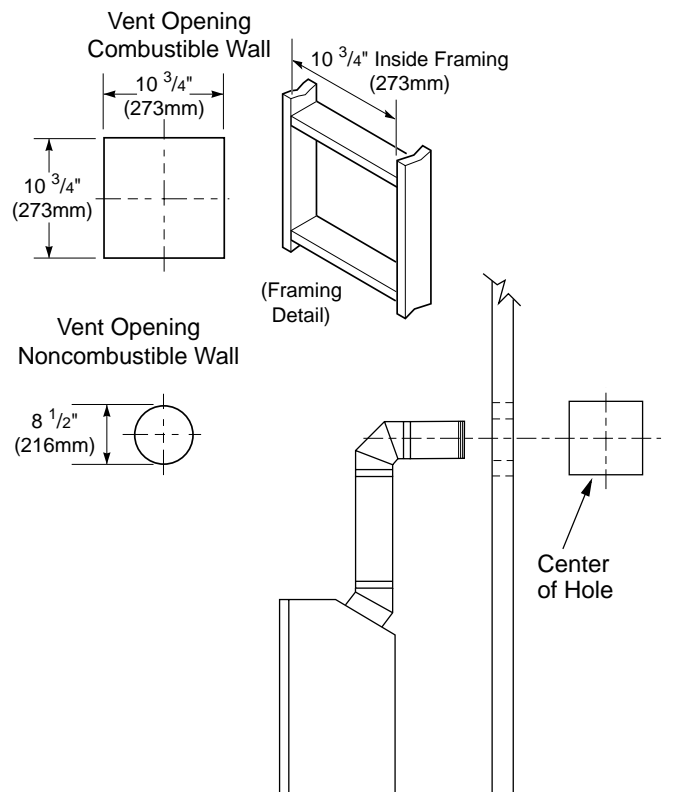
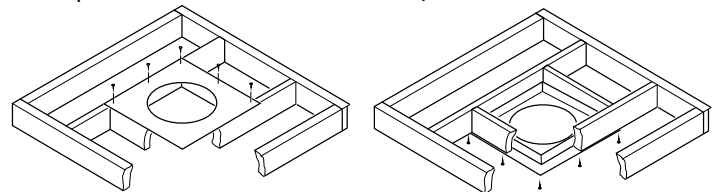

Figure 9 - Vent Opening Requirements
Figure 20 - Installing Firestop
5. Carefully determine the location where the vent pipe assembly will penetrate the outside wall. The center of the hole should line up with the center-line of the horizontal vent pipe. Mark the wall for a 10³/₄" x 10³/₄" square hole. Cut and frame the square hole in the exterior wall where the vent will be terminated. If the wall being penetrated is constructed of noncombustible material, such as masonry block or concrete, a 8¹/₂" hole with zero clearance is acceptable (see Figure 9).
1. Cut a 10 3/4" square hole in the ceiling using the locating hole as a center point. The opening should be framed to 10 3/4"x10 3/4" (273 mm x 273 mm) inside dimensions, as shown in Figure 9 on page 8 using framing lumber the same size as the ceiling joists. If the area above the ceiling is an insulated ceiling or a room, nail firestop from the top side. This prevents loose insulation from falling into the required clearance space. Otherwise, install firestop below the framed hole. The firestop should be installed with no less than three nails per side (see Figure 20).
3. Cut a hole in the roof using the locating hole as a center point. (Cover any exposed open vent pipes before cutting hole in roof.) The 10 3/4"x10 3/4" hole must be measured on the horizontal; actual length may be larger depending on the pitch of the roof. There must be a 1" clearance from the vent pipe to combustible materials. Frame the opening as shown in Figure 9, page 8.